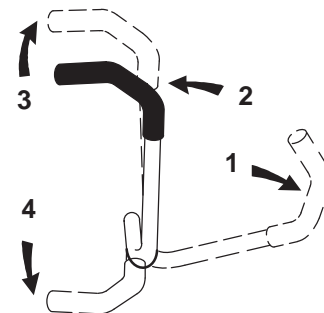

Figure 9
3. To go forward, slowly push the motion control levers forward (Fig. 9).
To go straight, apply equal pressure to both motion control levers (Fig. 9).
To turn, release pressure on the motion control lever toward the direction you want to turn (Fig. 9).
2. To go backward, slowly pull the motion control levers rearward (Fig. 9).
To turn, release the pressure on the motion control lever toward the direction you want to turn (Fig. 9).